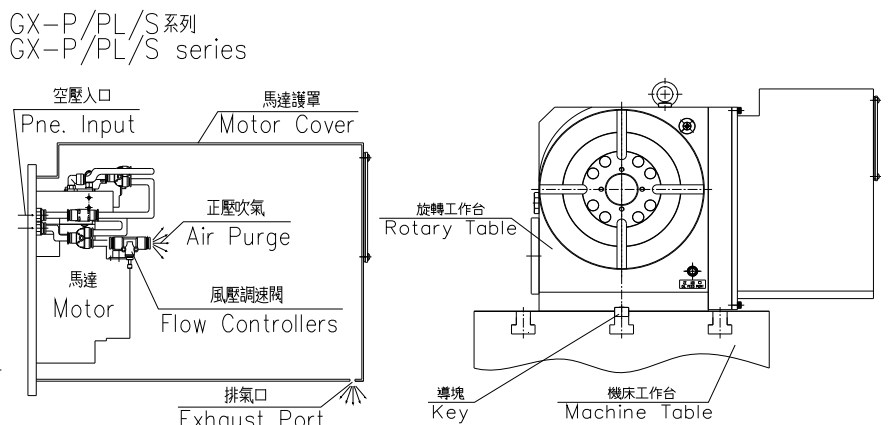

Fig 6-2
- (3).Clean and de-burr the mounting surfaces and the rotary table.
- (4).Mount the rotary table on the machine center. (see Fig 6-2) ◦